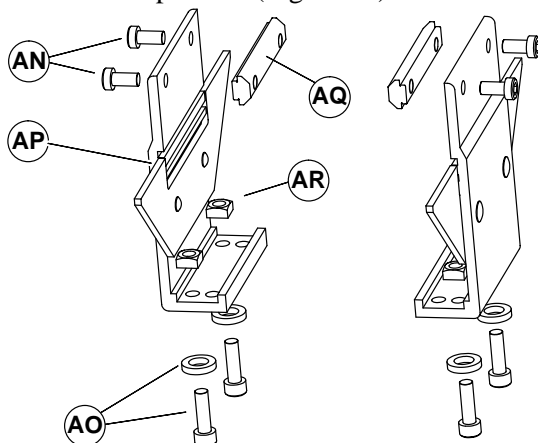

**Figure 26**
3. Install assembly (W of Figure 26) on bottom of conveyor. Tighten bracket screws (R) to 9 Nm.